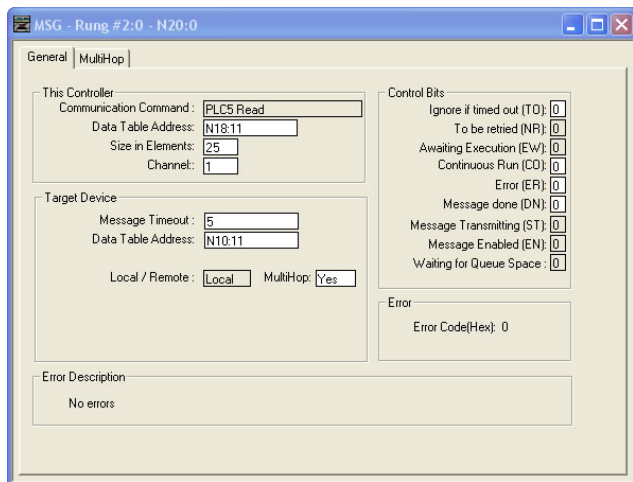

Figure 112: MSG Configuration, "General" Tab
- Upon hitting the <ENTER> key while in the "Control Block" entry box, the MSG Properties dialog box should appear (or it can be opened by clicking on the "Setup Screen" button at the bottom of the MSG instruction). Refer to Figure 112.